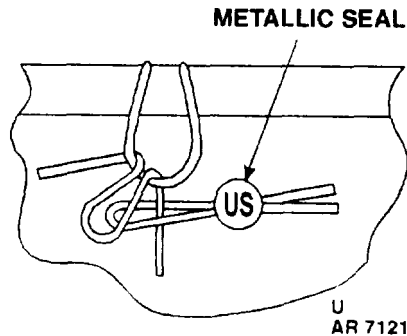

FIGURE 4-2. VIEW OF SEAL, METALLIC
- b. Palletize in accordance with method illustrated in figure 4-2 or specific palletization drawings if available..